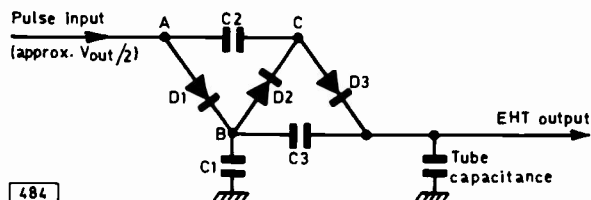

Fig. 3: Basic voltage doubler circuit.
The basic voltage doubler circuit is shown in Fig. 3. Suppose we have a pulsed d.c. input of 10kV. The first applied pulse raises the input (A) to +10kV. D1 conducts, charging C1, so that terminal B is raised to 10kV above earth. When the input pulse terminates A is effectively earthed and D1 reverse biased. D2 is now forward biased by the voltage at B and charge is transferred from C1 to C2 so that C is raised to 10kV above A. When the next input pulse arrives the charge on C1 is replenished and at the same time the voltage at C becomes the sum of the input 10kV pulse plus the charge stored